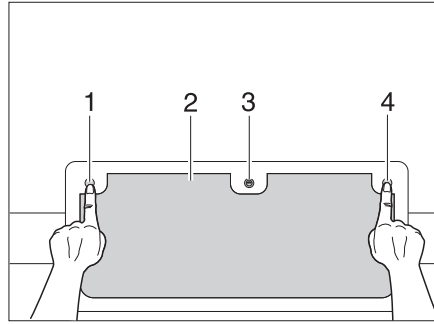

Fig. 35 Flap lock with buttons, locked
- Insert the key into the locking cylinder (Fig. 35,3) and turn a quarter turn.
- Press in the three push buttons (Fig. 35,1, 3 and 4).
- Close the external flap (Fig. 35,2) completely until it engages audibly.
- Insert the key into the locking cylinder (Fig. 35,3) and turn a quarter turn. The lock is locked.